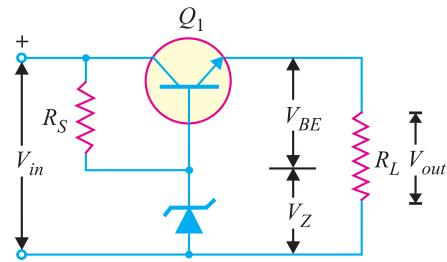

Fig. 17.13
Figure 17.13 shows a simple series voltage regulator using a transistor and zener diode. The circuit is called a series voltage regulator because the load current passes through the series transistor  $Q_1$  as shown in Fig. 17.13. The unregulated d.c. supply is fed to the input terminals and the regulated output is obtained across the load. The zener diode provides the reference voltage.
**Operation.** The base voltage of transistor  $Q_1$  is held to a relatively constant voltage across the zener diode. For example, if 8V zener (i.e.,  $V_Z = 8V$ ) is used, the base voltage of  $Q_1$  will remain approximately 8V. Referring to Fig. 17.13,
**Example 17.12.** For the circuit shown in Fig. 17.13, if  $V_Z = 10V$ ,  $\beta = 100$  and  $R_L = 1000 \Omega$ , find the load voltage and load current. Assume  $V_{BE} = 0.5V$  and the zener operates in the breakdown region.